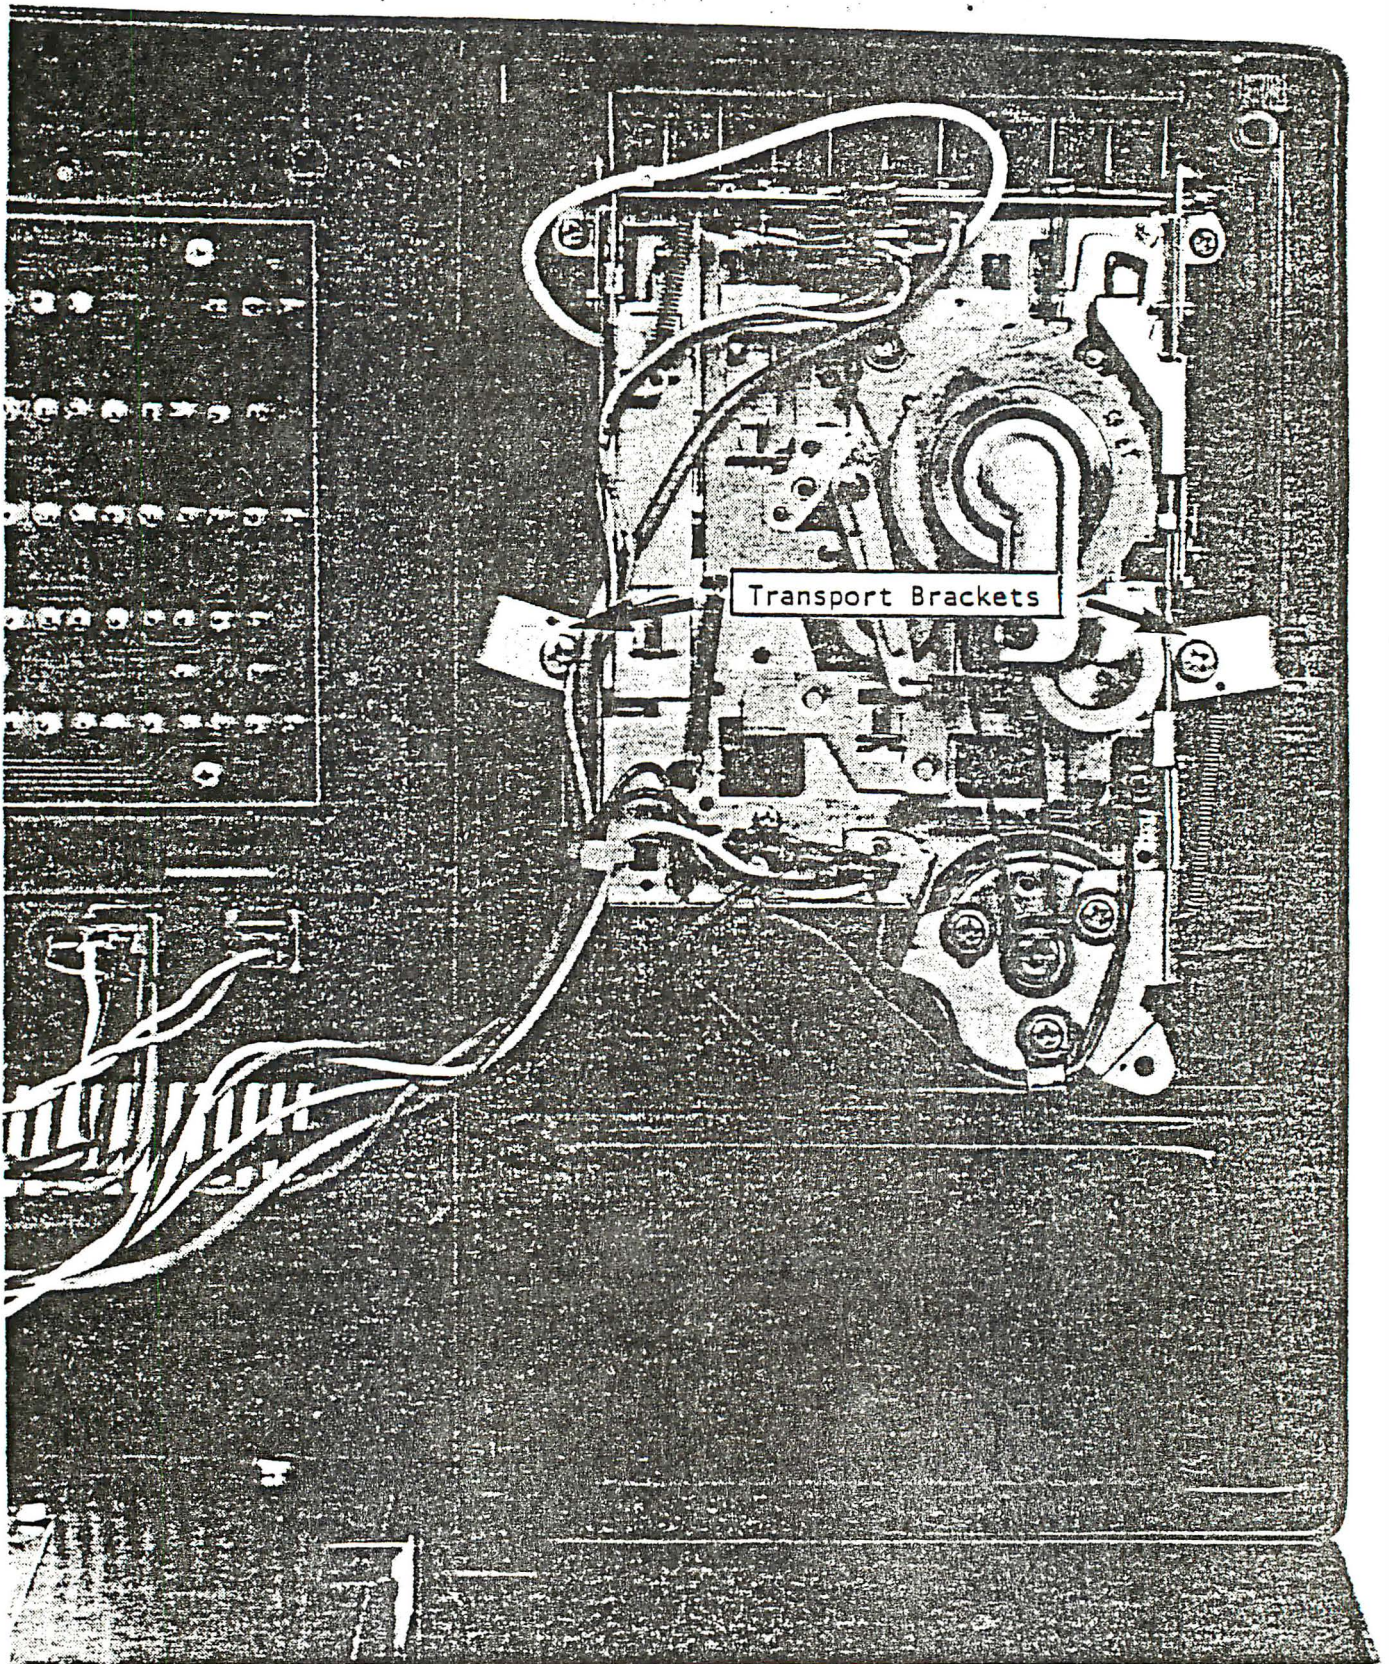

FIGURE 7--Cassette Transport In Housing
2. Remove the transport brackets shown in Figure 7. Lift the cassette transport out of the transport housing.
4. Cassette door can be inserted back in track by loosening the transport brackets (Figure 7) until transport housing has enough slack from upper assembly to allow pivot arms of cassette door to slide into track notch. It is usually easier to do this with door spring removed.